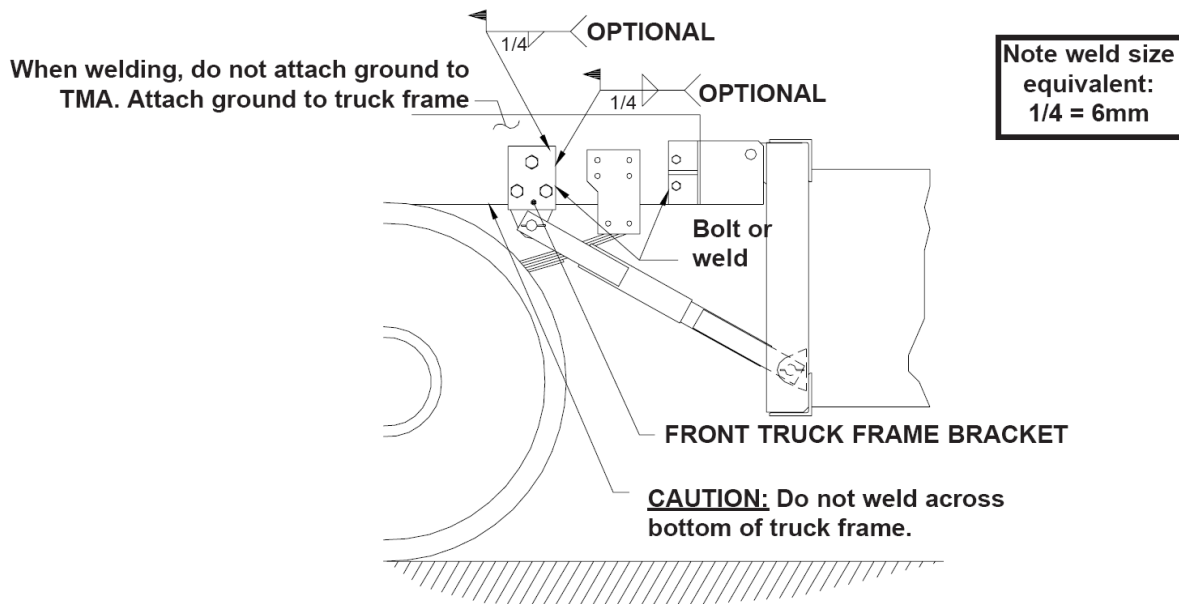
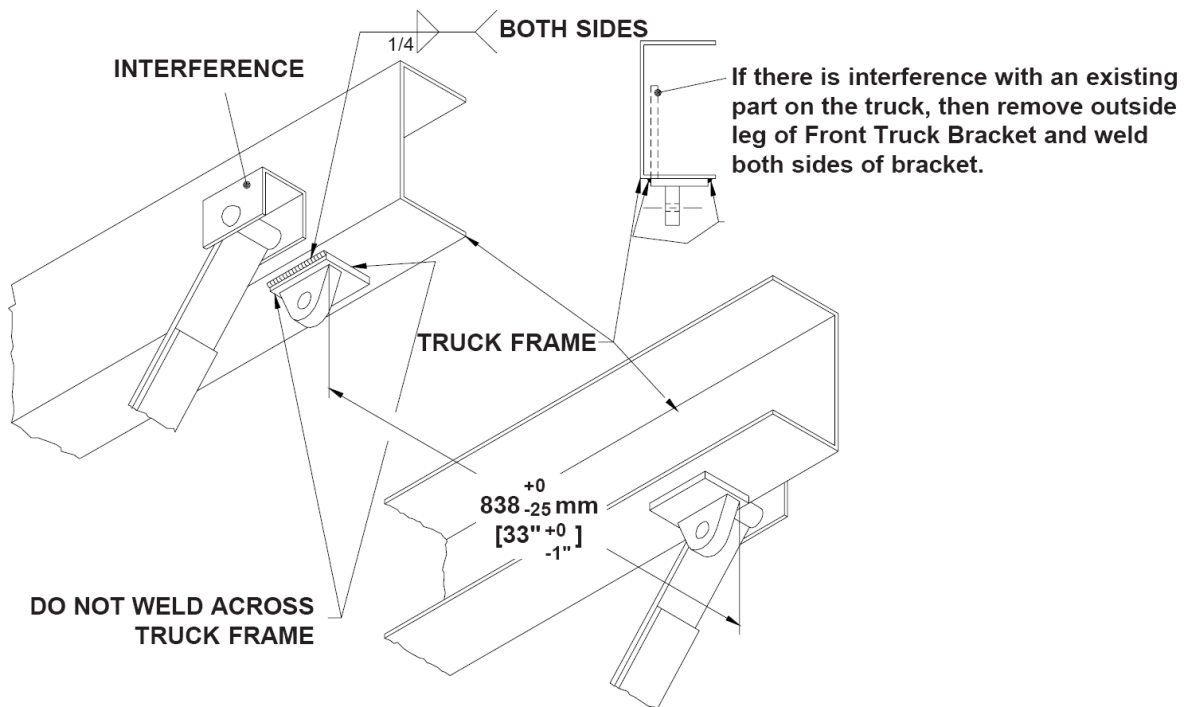

Figure 8
Figure 9
11. As shown in Figure 8, swing the Standard Struts up and position the Front Brackets against the side of the truck frame. This part may be either bolted or welded to the truck frame. If bolting is used, all six (6) bolts must be attached into drilled holes (three on each side) and the bolts torqued to 270 N-m [200 ft-lb]. (Before attempting the bolting method, make sure there is enough clearance between the side of the truck frame and the outboard leaf springs.) If welding is used, it should be done by a qualified welder and should be completed as shown on the detail drawings. Do NOT weld across the bottom of the truck frame. If there is interference between the Front Truck Frame Bracket and some existing part on the truck then the part can be assembled as shown in Figure 9.